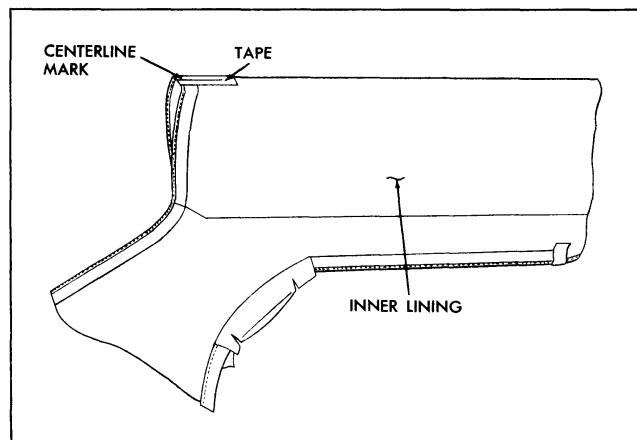

Fig. 22-47 Marking Top Assembly
26. Fold new top material in half so that inner lining of top material is exposed (Fig. 22-47). Install a 6" piece of tape on inner surface at centerline fold of new top material (Fig. 22-47). Using a pencil, mark the approximate centerline of new top material along entire length of tape.